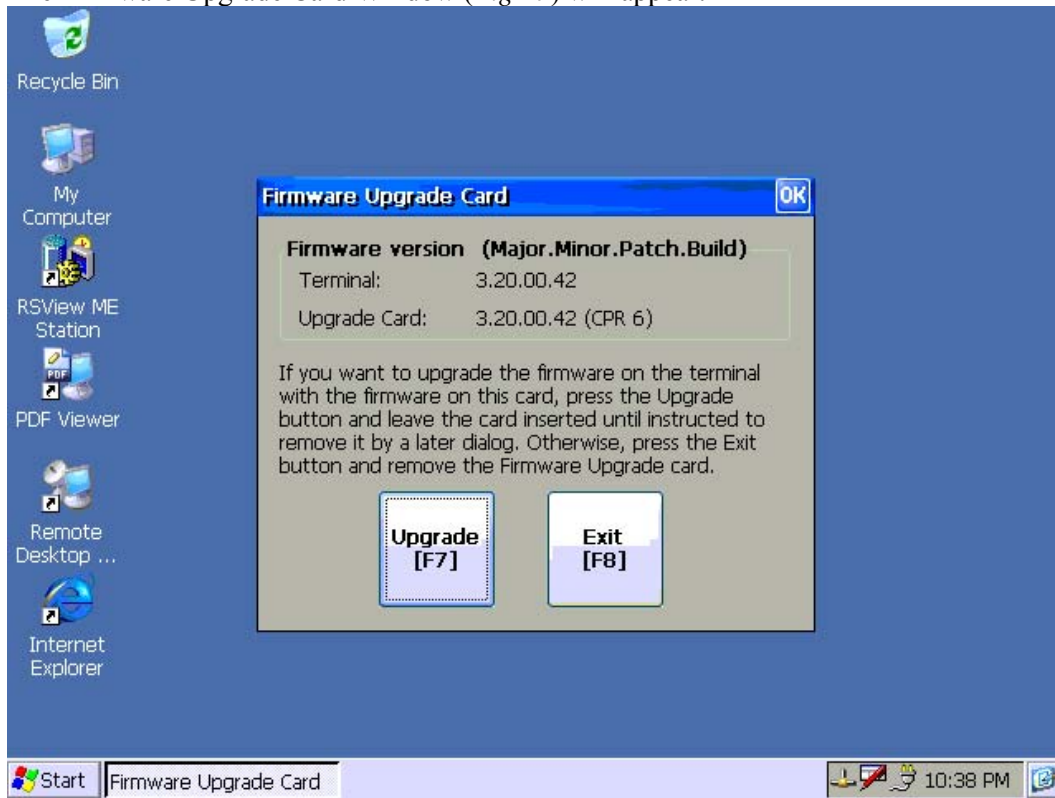

Fig 17
27. The Firmware Upgrade Card Window (Fig 17) will appear.